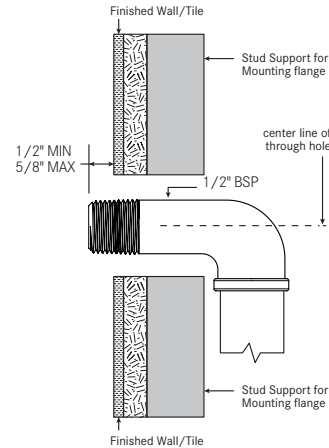

Figure 2
6. Refer to Figure 2 for steps 6 - 11. Separate escutcheon (5) from mounting flange (3) by removing the escutcheon set screw (7). Slide mounting flange (3) onto body of faucet (6) and secure it to the faucet body with the mounting flange set screw (8) aligned with the keyway in the body of the faucet (6).
7. Thread faucet (6) onto water supply nipple (1) until connection is tight and faucet is level, keyway should be pointing down.
8. Slide mounting flange (3) against finished wall surface and mark flange holes.
9. Remove faucet (6) and mounting flange (3). Drill pilot holes and install mounting screws (4) into the wall using reference marks made in Step 8. If it is not possible to provide support studs for flange (Step 5), the anchors included with the mounting screws can be used.
10. Apply thread sealant to water supply nipple (1) and install mounting flange gasket (2) and mounting flange (3) (set screw hole down) and slide escutcheon (5) over faucet body (6).
11. Thread faucet (6) onto water supply nipple (1) until water tight connection is achieved and faucet is level. Secure mounting flange set screw (8) to the mounting flange (3) and secure escutcheon (5) onto mounting flange (3) with escutcheon set screw (7).